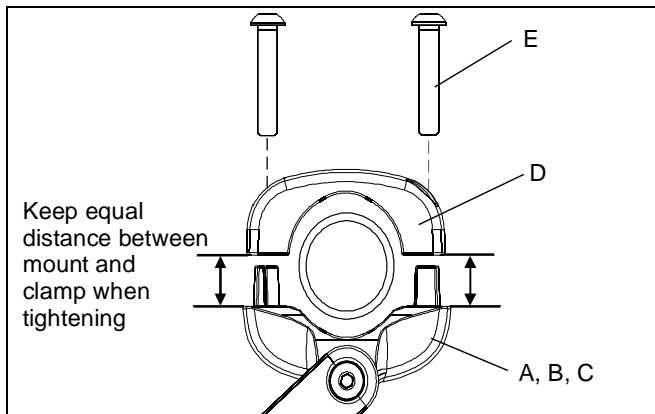

Figure 2
NOTE: Equally tighten screws (E) against mount (A, B or C) and the pole clamp (D). (See Figure 2)
3. Position mount at desired height and orientation. Tighten screws (E) securely.